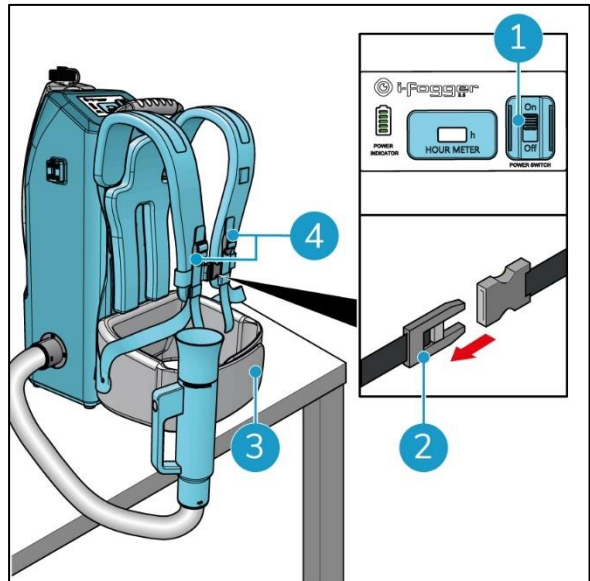

Figure 14
5. Undo the Velcro closures (Figure 14, pos 3).
6. Loosen the 2 buckles (Figure 14, pos 4).
7. Loosen the buckle at the front (Figure 14, pos 2).
8. Press the ON/OFF switch (Figure 14, pos 1) to turn on the i-fogger. The hour meter and the battery power status display light up. See also section 2.1.